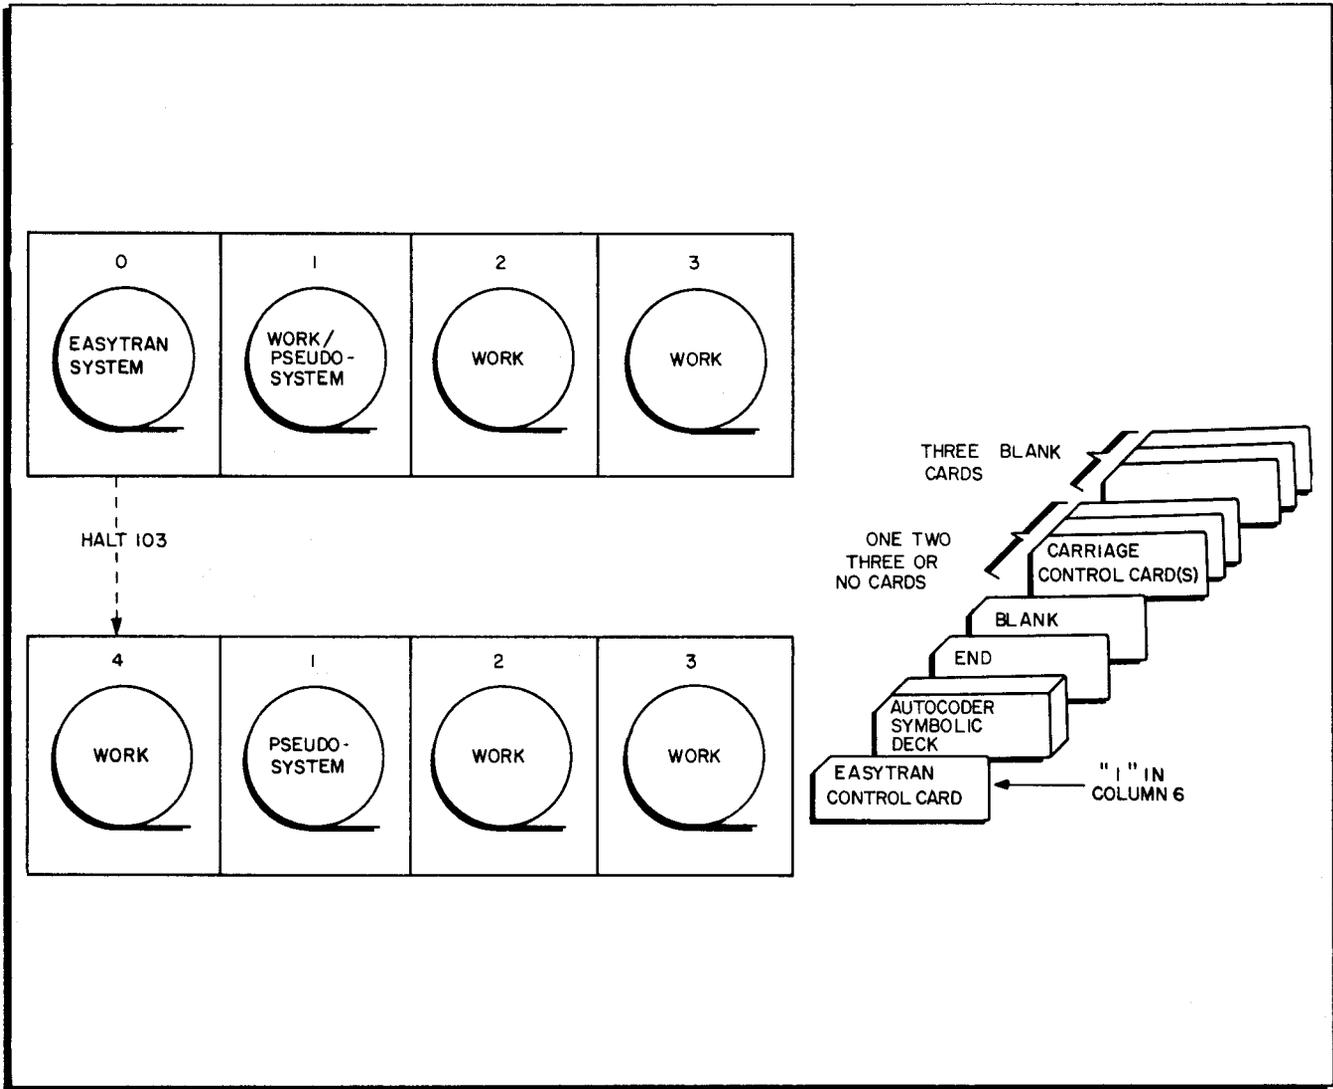

Figure 5. Four-Tape System — Tape Manipulation and Card Input for Autocoder Conversion from Cards
Four-Tape System: Autocoder Conversion from Cards (Figure 5)
1. Make up the Easytran load deck as shown in Figure 5; load the card reader.